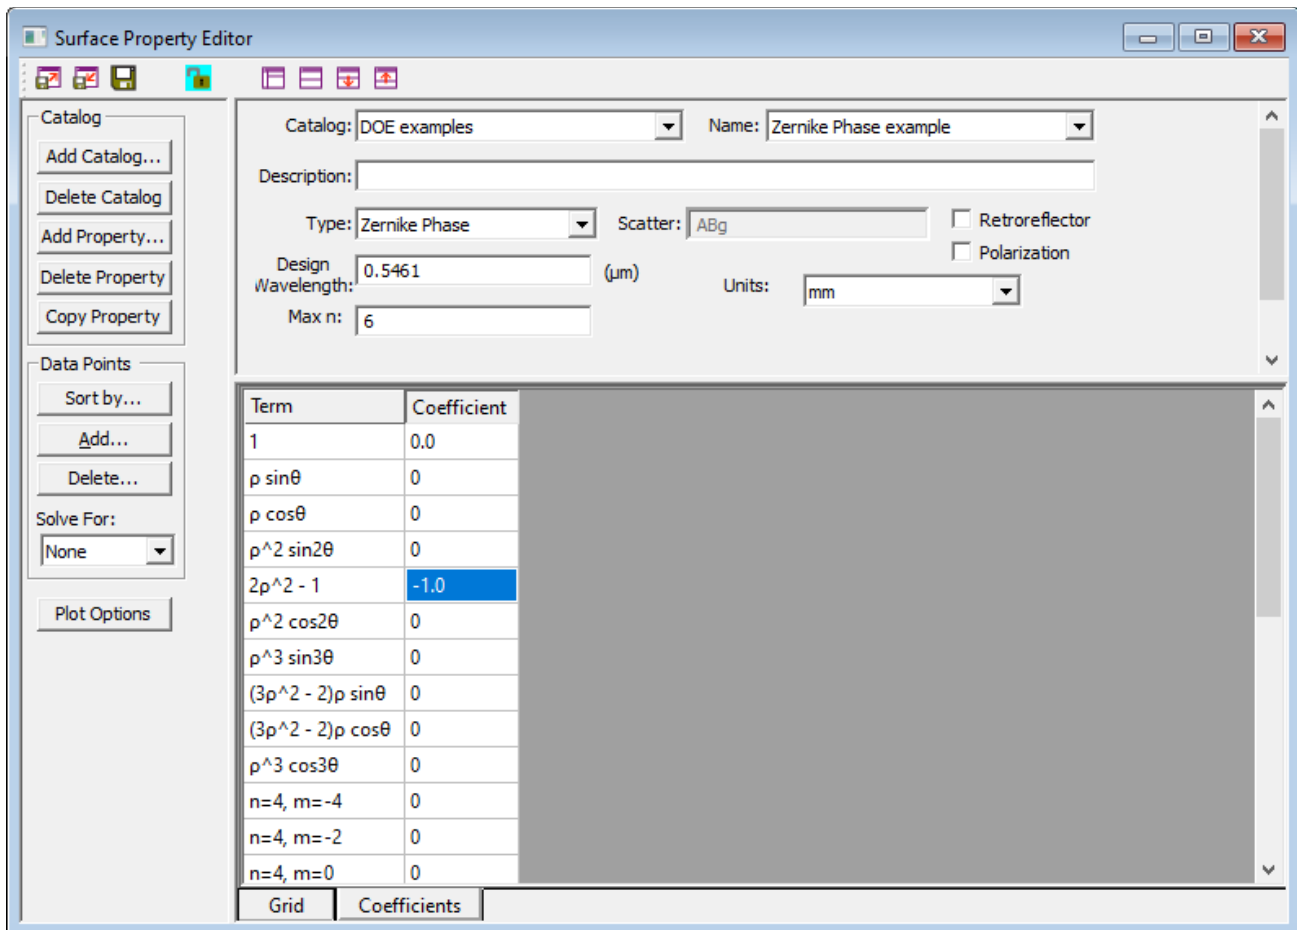

Figure 14. Example Zernike Phase surface property.
8. Select the **Coefficients** tab and enter -1.0 for the  $2\rho^2 - 1$  term. The completed property should appear as in Figure 14. Save the property and close the **Surface Property Editor** window.